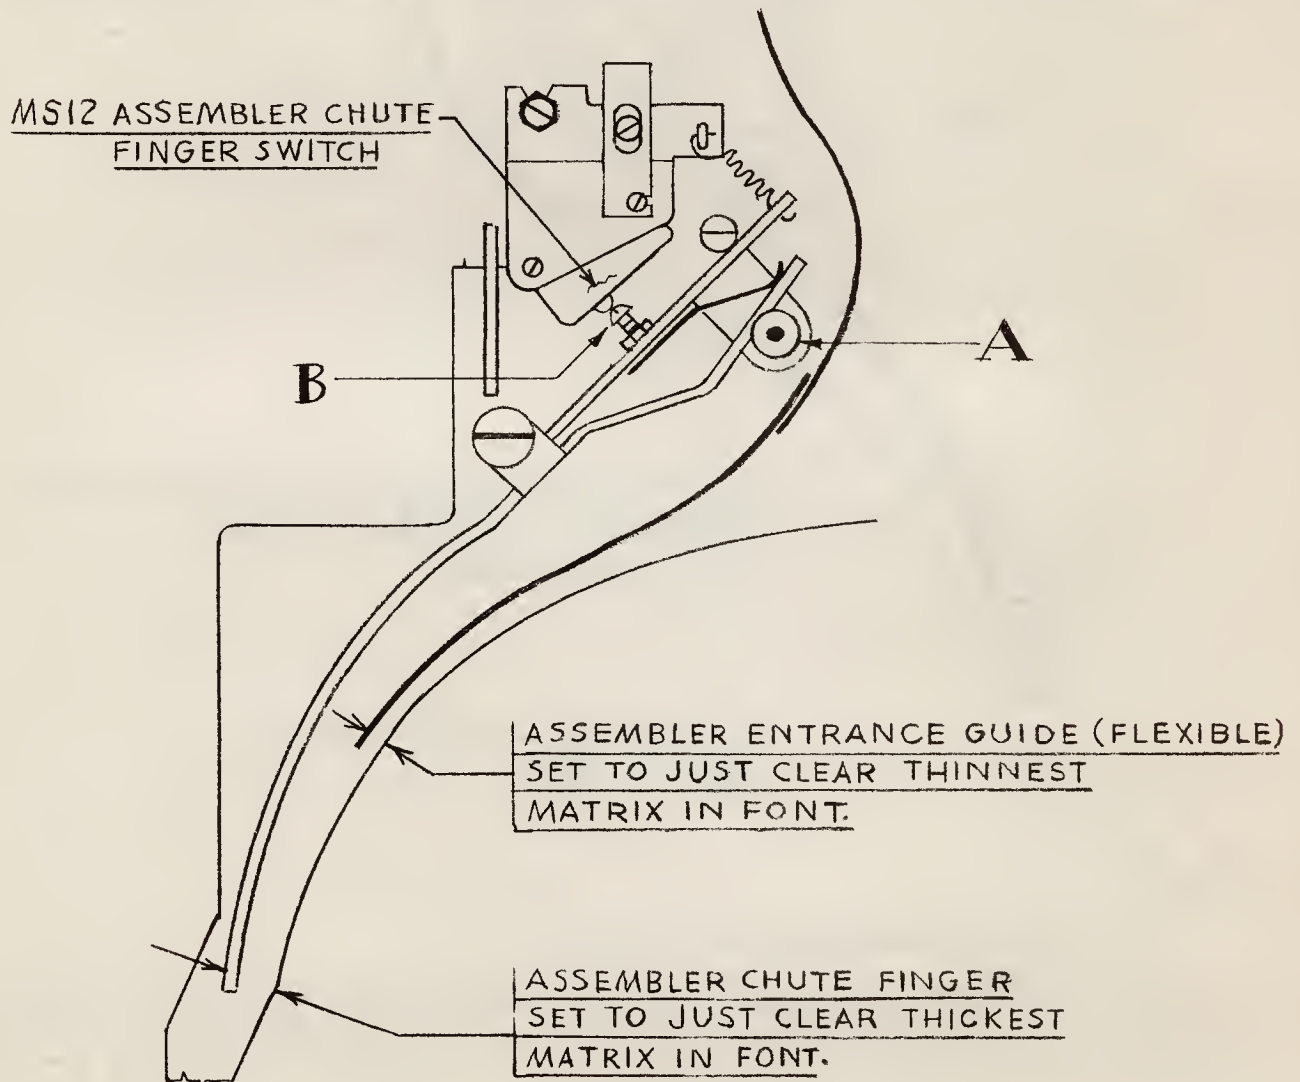

FIG. 6
* (F) Assembler Chute Finger (Fig. 6)
3. The MS 12 Assembler Chute Finger Switch should be adjusted by screw "B", so that when the assembler chute finger is set correctly as outlined in (2), MS 12 switch should just be actuated.